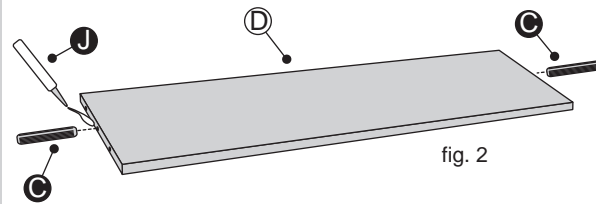

fig. 2
2. Place a small amount of Glue **J** into the dowel holes. Then insert Dowels **C** into the Middle Support **D**. See fig. 2.